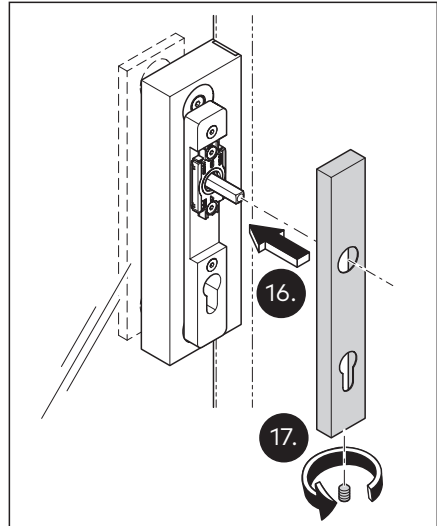

Fig. 20 Attach the cover to the base plate and fix in place
- 16. Attach the cover to the base plate (Fig. 20).